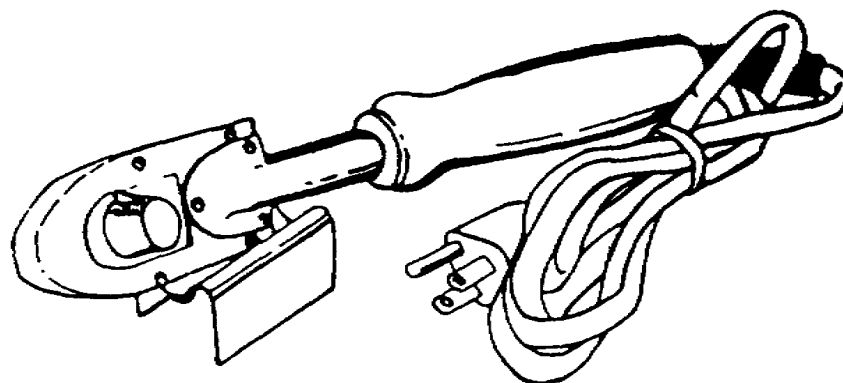

Figure 2-15. Tacking iron
(1) When a permanent bond between the print and the mounting board is desired, you should use one of the dry mounting adhesives. One type of dry mounting employs pressure sensitive adhesive sheets that require no additional equipment or heat. To use this material, you simply peel off one side of the protective sheets and apply to the print. Then peel off the protective sheet on the other side of the material and mount the print in place.
(2) Another method of dry mounting prints is done by using dry mounting tissue, a tissue paper coated on both sides with a shellac type adhesive. The tissue is dry, thin, and not sticky, and very easy to handle. Furthermore, it is odorless and chemically inert so it will not stain a print. Being moisture proof, it will not wrinkle a print. It is well suited for either doubleweight or singleweight prints; and it gives a strong, flexible, and very permanent bond between prints and mount. The dry mounting process is so clean, simple, and efficient that it is by far the most widely used process when permanence and neatness are necessary.
(3) Although dry mounting presses are made for the express purpose of mounting prints with tissue, an ordinary electric hand iron will give good results if common sense is used to apply the principles of dry mounting with tissue.
4. Dry mounting procedure. When using dry mounting tissue, place the untrimmed print face down on the table. Fasten a sheet of mounting tissue as large as, or larger than the print to the back of the print by applying the point of a hot "tacking iron" (fig 2-15) very lightly at one point, in the center of the print. (The iron should be just hot enough to sizzle when touched with a wet finger.) Very little pressure is needed as the heat from the iron is usually enough to fasten the tissue. Then turn the print face up and trim both the print and the tissue to ensure they are exactly the same size and shape, with no overlapping edges. Then position the print on the mounting board and tack the tissue to the board by slipping the point of the hot iron between the print and the tissue, thus preventing the print from slipping after it has been properly positioned.